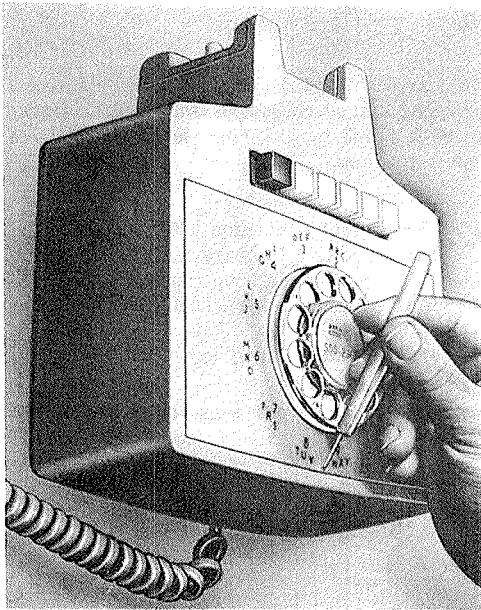

Fig. 15—Installation 851A Faceplate
- (1) If installing 2851A faceplate (2851-type telephone set) place station number card in from front of faceplate in standard manner.
- (2) Insert tabs on faceplate into slots of housing. Use a KS-16750 type releaser or equivalent to depress the tab of the faceplate retainer clip while seating the faceplate. To insure proper positioning of the retainer clip, raise the handle of the releaser well above horizontal, as shown in Fig. 15, before withdrawing the tool.
- (3) If the latching characteristic of the P-269524 retainer clip is inadequate, replace with a 840155618 clip.